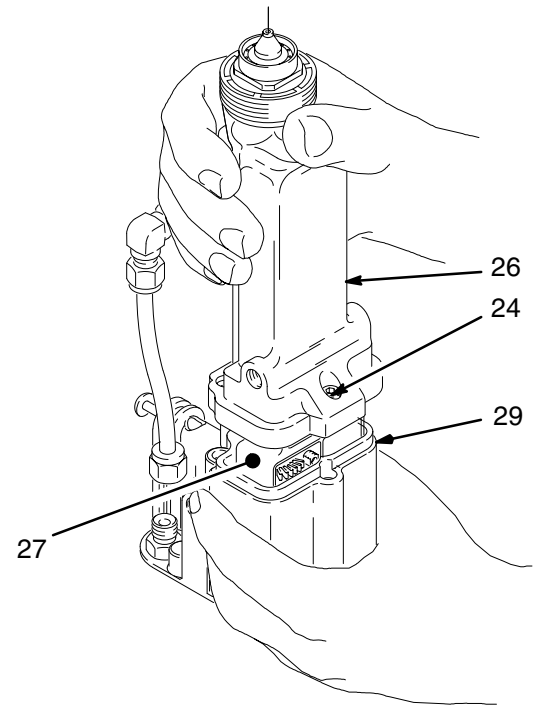

Fig. 29
5. Loosen the three screws (24) with the ball end wrench (77—not shown). See Fig. 29.
6. Hold the gun body (29) with one hand and pull the barrel (26) straight away from the body to remove it.